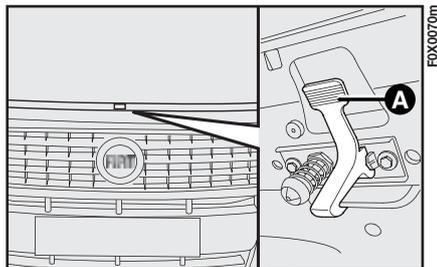
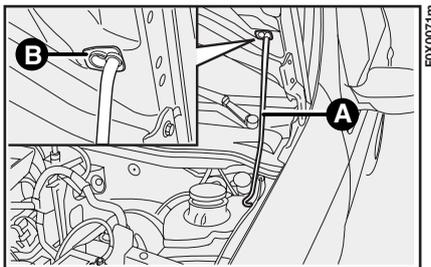

fig. 89
fig. 90
- 2) Use lever A-fig. 89 to raise the bonnet, holding it centrally and releasing the bonnet stay A-fig. 90 from its locking device at the same time.
- 1) Hold the bonnet up with one hand and with the other remove stay A-fig. 90 from housing B and fit it back into its locking device.